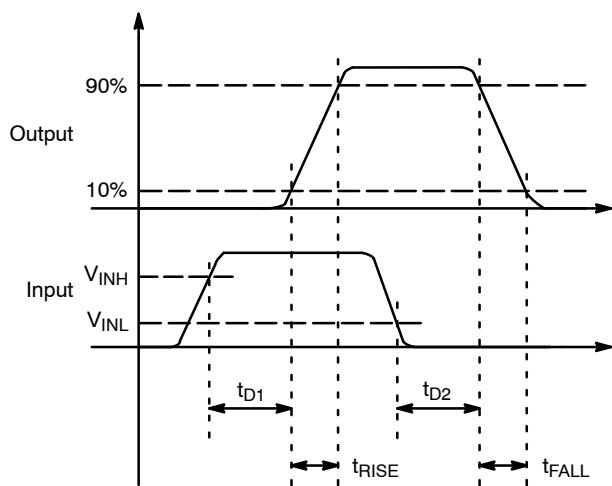
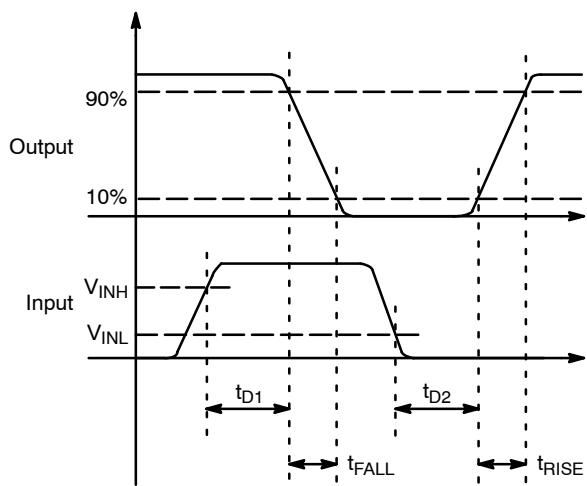

Figure 8. Non-Inverting (EN HIGH or Floating)
Figure 9. Inverting (EN HIGH or Floating)
12. See *Timing Diagrams of Figure 8 and Figure 9*.